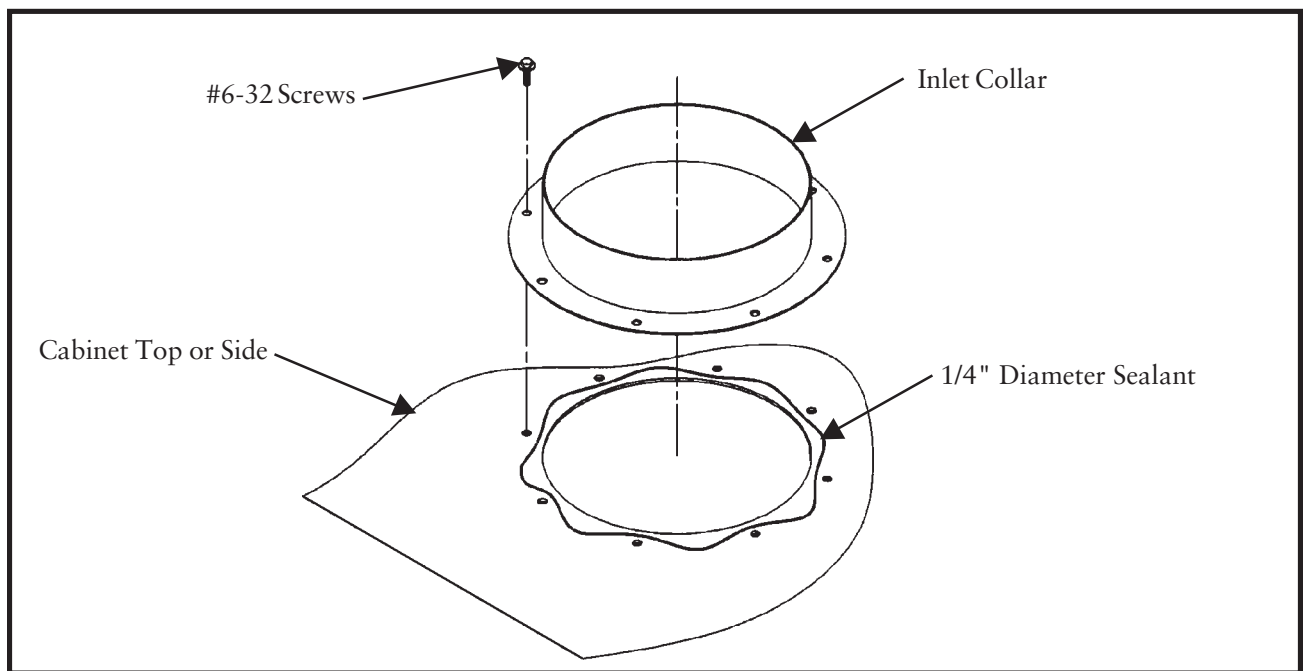

Figure 5
2.5.3 Inlet Collar (See Figure 5 Inlet Collar)